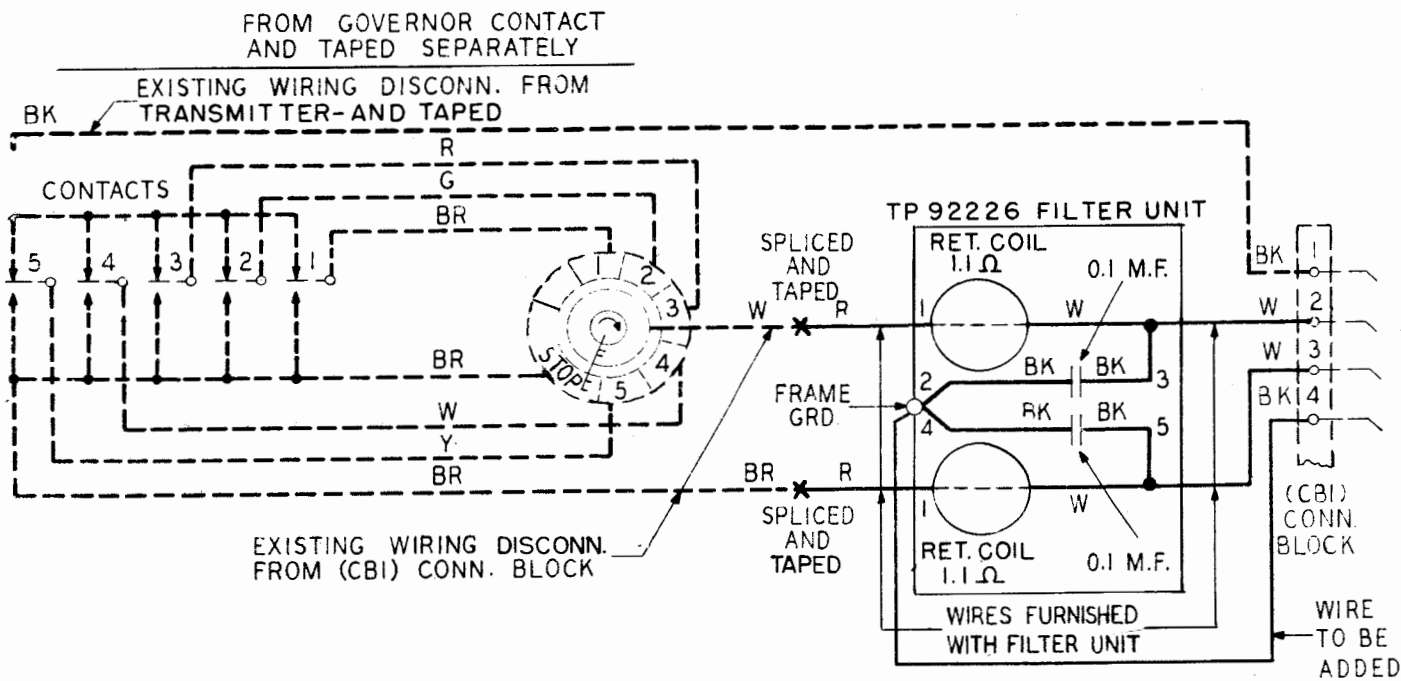

Figure 1
2.02 Referring to Figure 1, connect the remaining leads of the filter unit as follows:
- (1) Remove the brown lead from terminal 3 of CB1 and splice it to the red lead of the filter coil located farthest away from the bracket.
- (2) Connect the white lead of this coil to terminal 3 of CB1.
- (3) Remove the white lead from terminal 2 of CB1 and splice it to the red lead of the filter coil nearest the bracket.
- (4) Connect the white lead of this coil to terminal 2 of CB1.
- (5) Check the filter connections to see that they are in accordance with Figure 1.